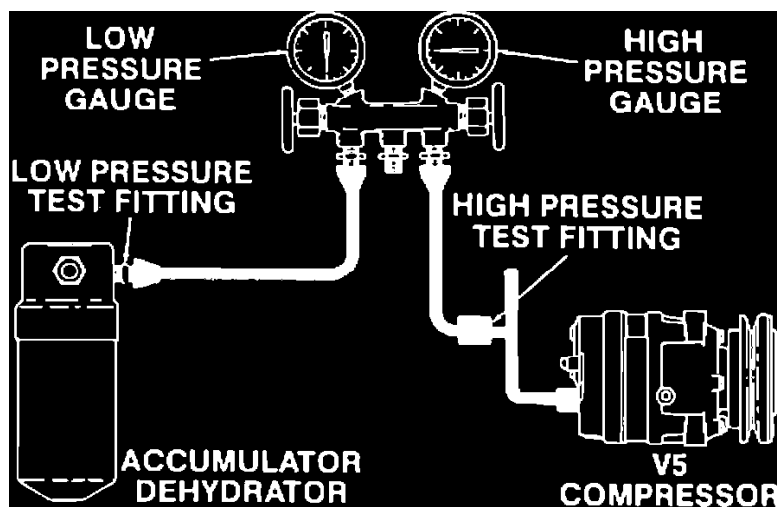

FIGURE 1 - TESTING HOOKUP
1. Connect gage set (Figure 1) to high and low A/C service fittings.